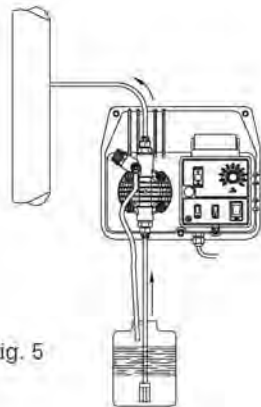
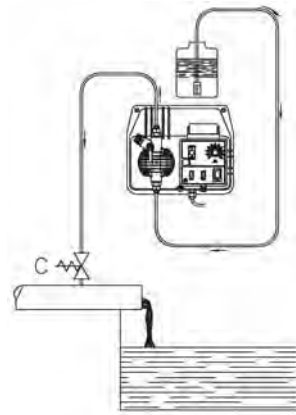

Fig. 5
Fig. 6
- c. Locate the pump in position as shown in fig. 5 taking into account that it can be located over or under the liquid level within a maximum difference of 2 meters. The injection point must always be located higher than the liquid being injected. Do not install the pump directly on the tank as some additives produce vapour which may damage the equipment. For correct installation see fig.12. If the plant being treated operates at atmospheric pressure (free discharge additive) and the additive tank must be placed higher than the injection point (Fig. 6), check periodically that the injection valve is operating correctly, as excessive wear could cause additive injection by liquid loss (even when the plant is not operating). If the problem persists, insert a correctly calibrated **counter pressure valve C** between the dosing pump and the injection point (Fig. 6). For liquids that give off aggressive exhalations, do not install the pump over the tank unless the tank is hermetically sealed.